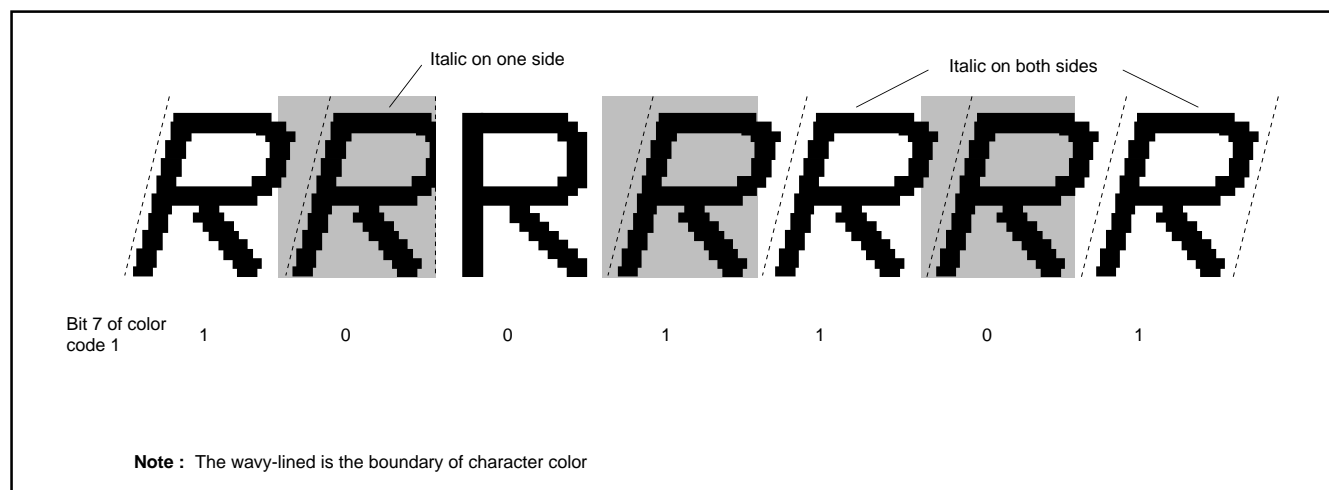

Fig. 72. Example of italic display
- 3: The boundary of character color is displayed in italic. However, the boundary of character background color is not affected by the italic (refer to Figure 72).
- 4: The adjacent character (one side or both side) to an italic character is displayed in italic even when the character is not specified to display in italic (refer to Figure 72).